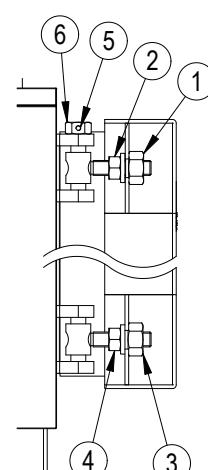

fig. 10
5.6.2 For models MEGAPREX 720N+1060N (Fig. 10)